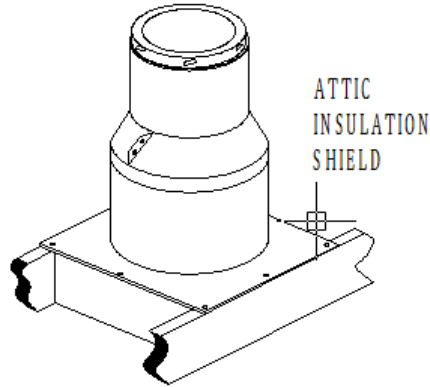

Fig.10
**8. Install Attic Insulation Shield (when the attic insulation shield is to be enclosed):** Install the Attic Insulation Shield where the chimney passes into an attic. Its purpose is to prevent debris and insulation from getting too close to the chimney (Fig 10). An installed Attic Insulation Shield is 15 inches high. In attic areas where this shield cannot fit, you must enclose the attic portion of the chimney in a framed enclosure. If the chimney is fully enclosed through the attic, an Attic Insulation Shield is not required. If the chimney passes into the attic, install the Attic Insulation Shield as follows:
- e. Secure the Attic Insulation Shield to the top of the framed opening using at least (3) 8-penny nails or (3) #8, 1-1/2" wood screws per side (Fig 10).